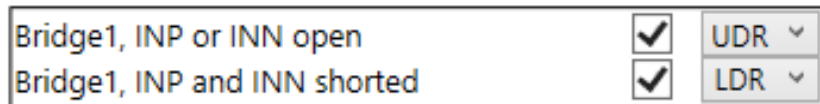

Figure 179. UDR/LDR Selection
- UDR/LDR drop-downs: define if an upper or lower diagnostic range of signalization level is used on the AOUT and/or FOUT pins for the selected check (see Figure 179).